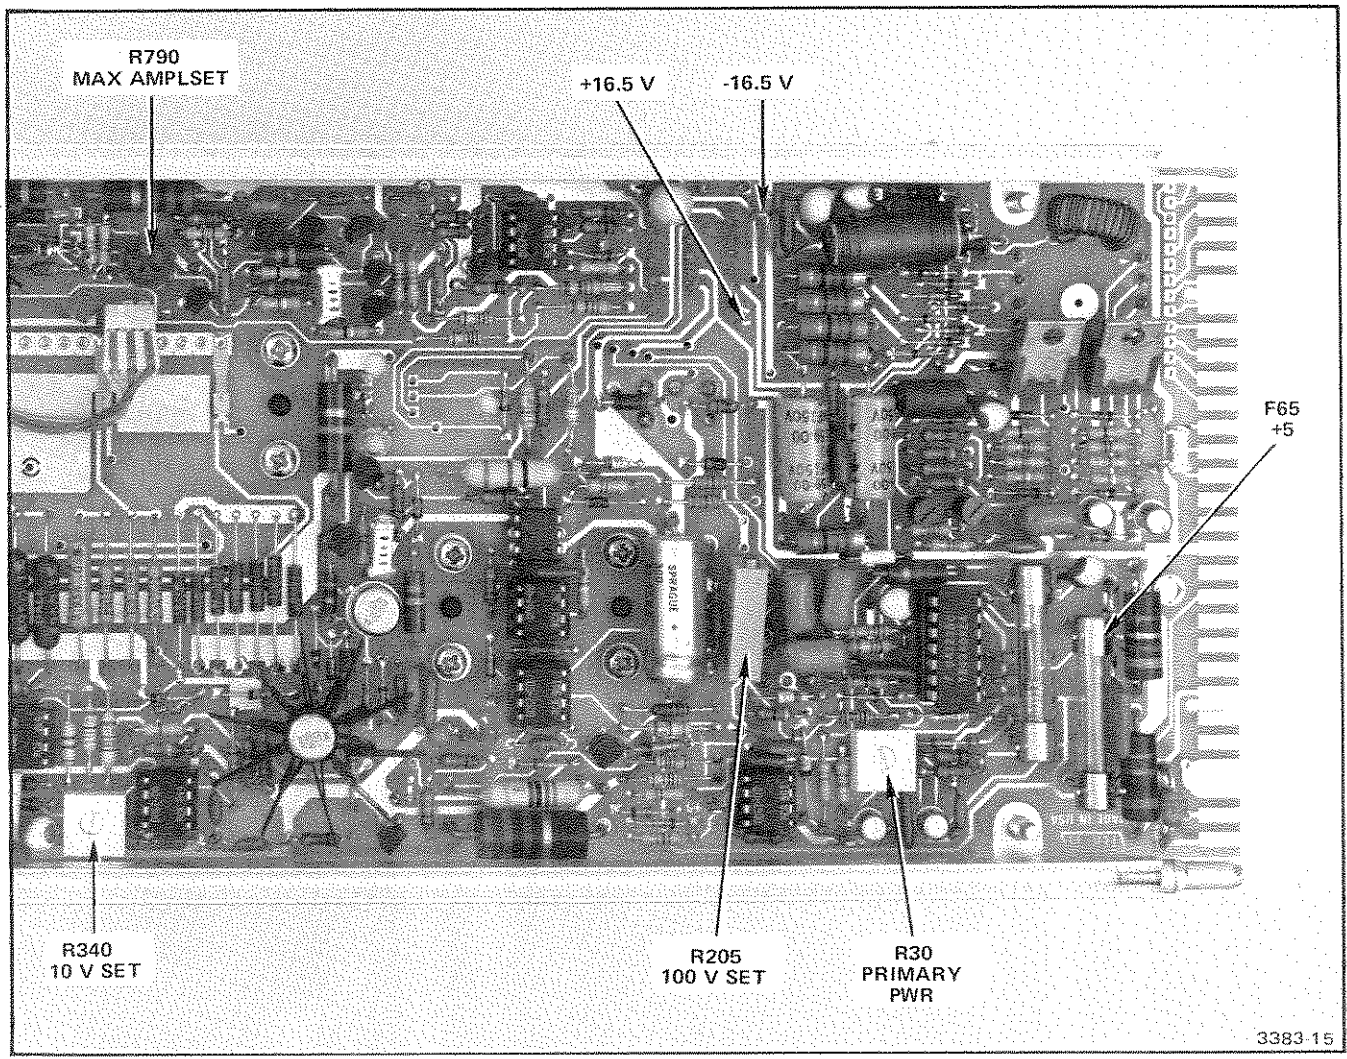

Fig. 4-5. Adjustment locations for the A1 Main circuit board.
a. Connect the voltmeter high input lead to the +16.5 V test point. Refer to Fig. 4-5.
- b. Connect the voltmeter high input lead to the top end of F65. Refer to Fig. 4-5.